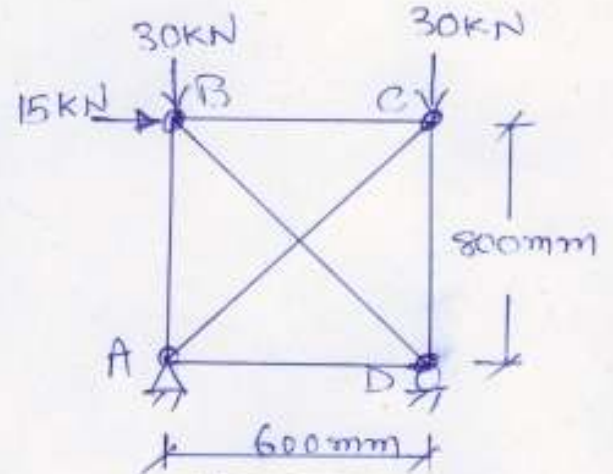

Figure-5
- Q.3** (a) Analyze the plane truss as shown in **figure-5** using flexibility matrix method. Take  $E=200\text{kN/mm}^2$ ,  $A=800\text{mm}^2$  (diagonal member),  $A=1200\text{mm}^2$  (other member). Find only diagonal redundant. **07**